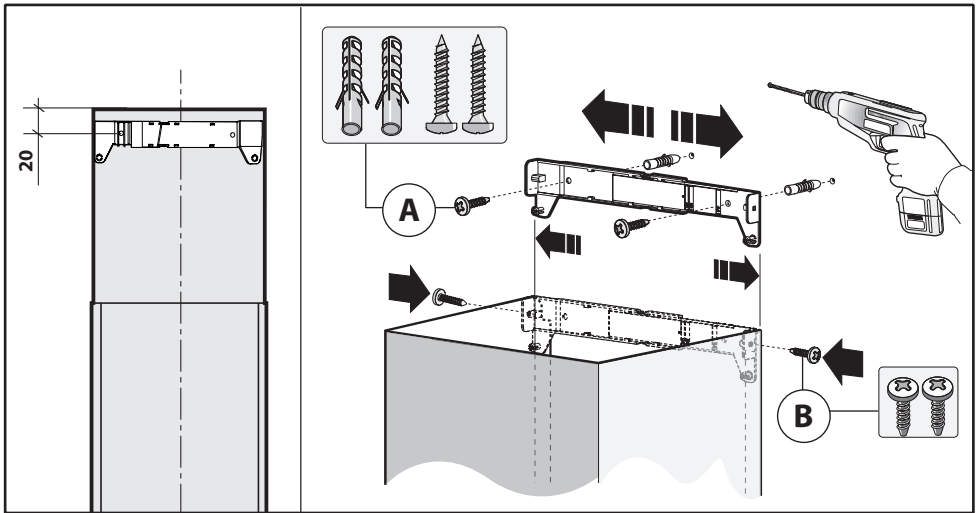
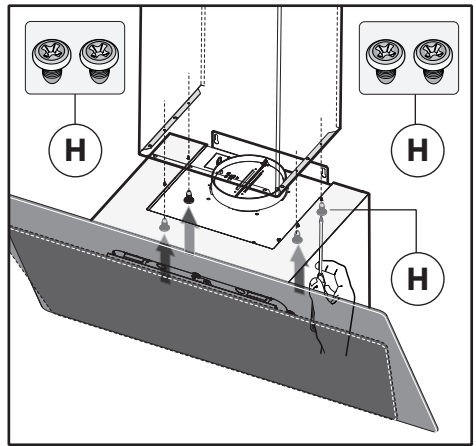

Fig.8
Fig.9B
Adjust the width of the support bracket of the top connector (Fig. 8). Then fix it to the ceiling so that it is on the same axis as the hood using screws **A** and observing the distance from the ceiling shown in (Fig. 8). Slide the top connector inside the lower duct and place this on the body (Fig. 9).
- Secure the lower decorative chimney to the hood using the supplied screws **H** (Fig.9B). Pull out the top duct as far as the bracket and secure it using screws **B** (Fig. 8).